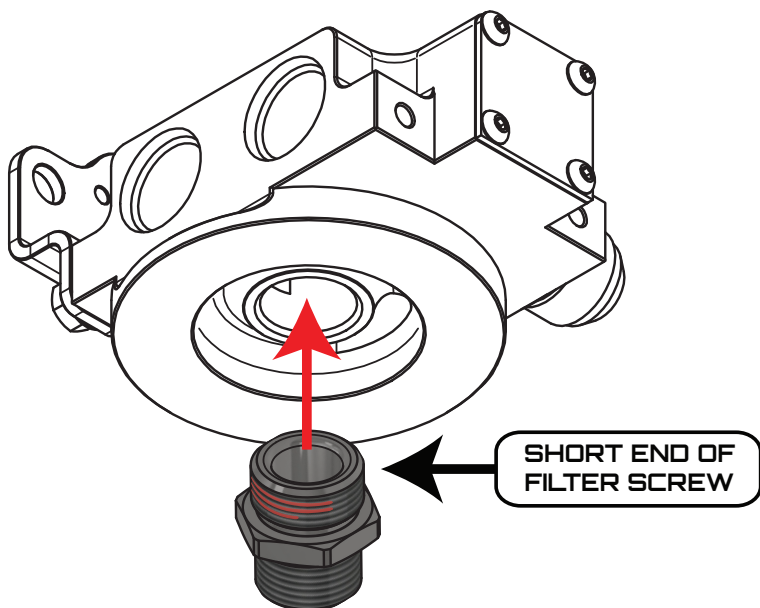

Figure 7 - Screw the Filter Screw into the Filter Housing
3. Screw the short end of the HSC-10XX filter screw into the ENV-170 as shown in Figure 7 and torque to approximately **25 lb-ft (34 N-m)**. Allow at least 10 minutes for the thread locker to set. It will be fully cured in 24 hours.